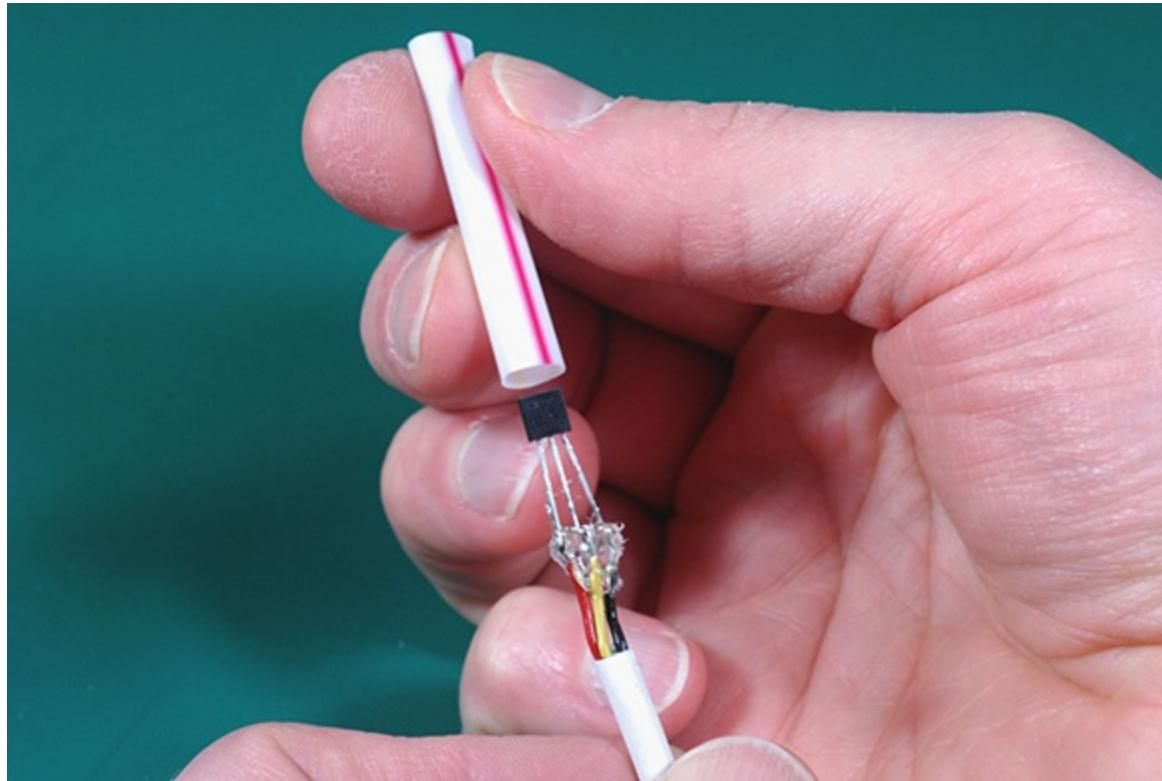

Figure 12-8: Testing the fit of your sensors.
9. After the glue cools, test that each sensor fits snugly into its straw, as shown in Figure 12-8. But make sure the leads don't touch each other or you'll have a short circuit.